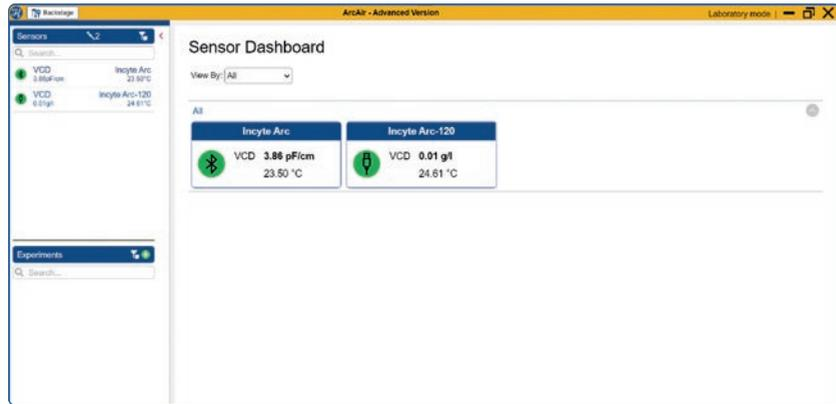

Figure 18: Overview of connected Sensors on the Sensor Dashboard. The Sensor List is found in the upper left corner.
- The ArcAir application recognizes and displays the connected sensor automatically on the Sensor Dashboard. It is displayed via which connection type the sensors can be reached. E.g. via Bluetooth or via the USB power cable (see Figure 18).